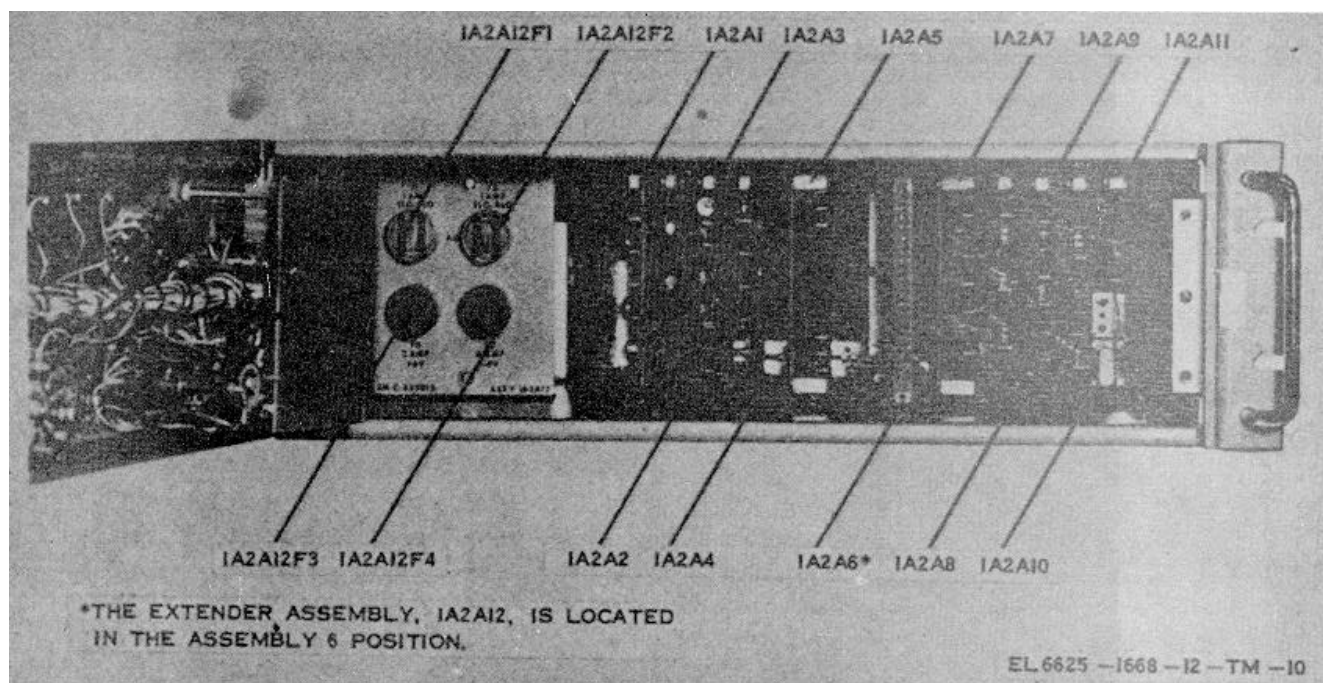

Figure 2-4. SG-860/GGM-15(V) assembly, card and fuse location.
- (2) Operate each front panel control to assure freedom of movement.
- (3) Check front panel locking screws and hinges for signs of damage.
- (4) Open and lock front panel, and check the position of each plug-in assembly. Refer to paragraph 2-3 and figures 2-4, 2-5 and 2-6 to check each plug-in assembly for proper location.
- (5) Check each plug-in assembly for secure engagement with the appropriate connector.
b. The plug-in assemblies for each major component and their reference designations are listed in table 2-1. Assembly locations are illustrated in figures 2-4, 2-5, and 2-6.
a. All fuses are installed at the factory. The fuses in each major component, their value, and reference designation are listed below. Figures 2-4, 2-5 and 2-6 will aid in locating most fuses. Other fuses are located on the plug-in assemblies (check reference designation for assembly number).